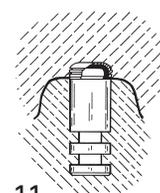

Fig. 11
6. Before waxing and processing the appliance, place a Locator Cap with Black Processing Male into each Female Analog in the master cast (Fig. 11). Make sure the male is fully seated.